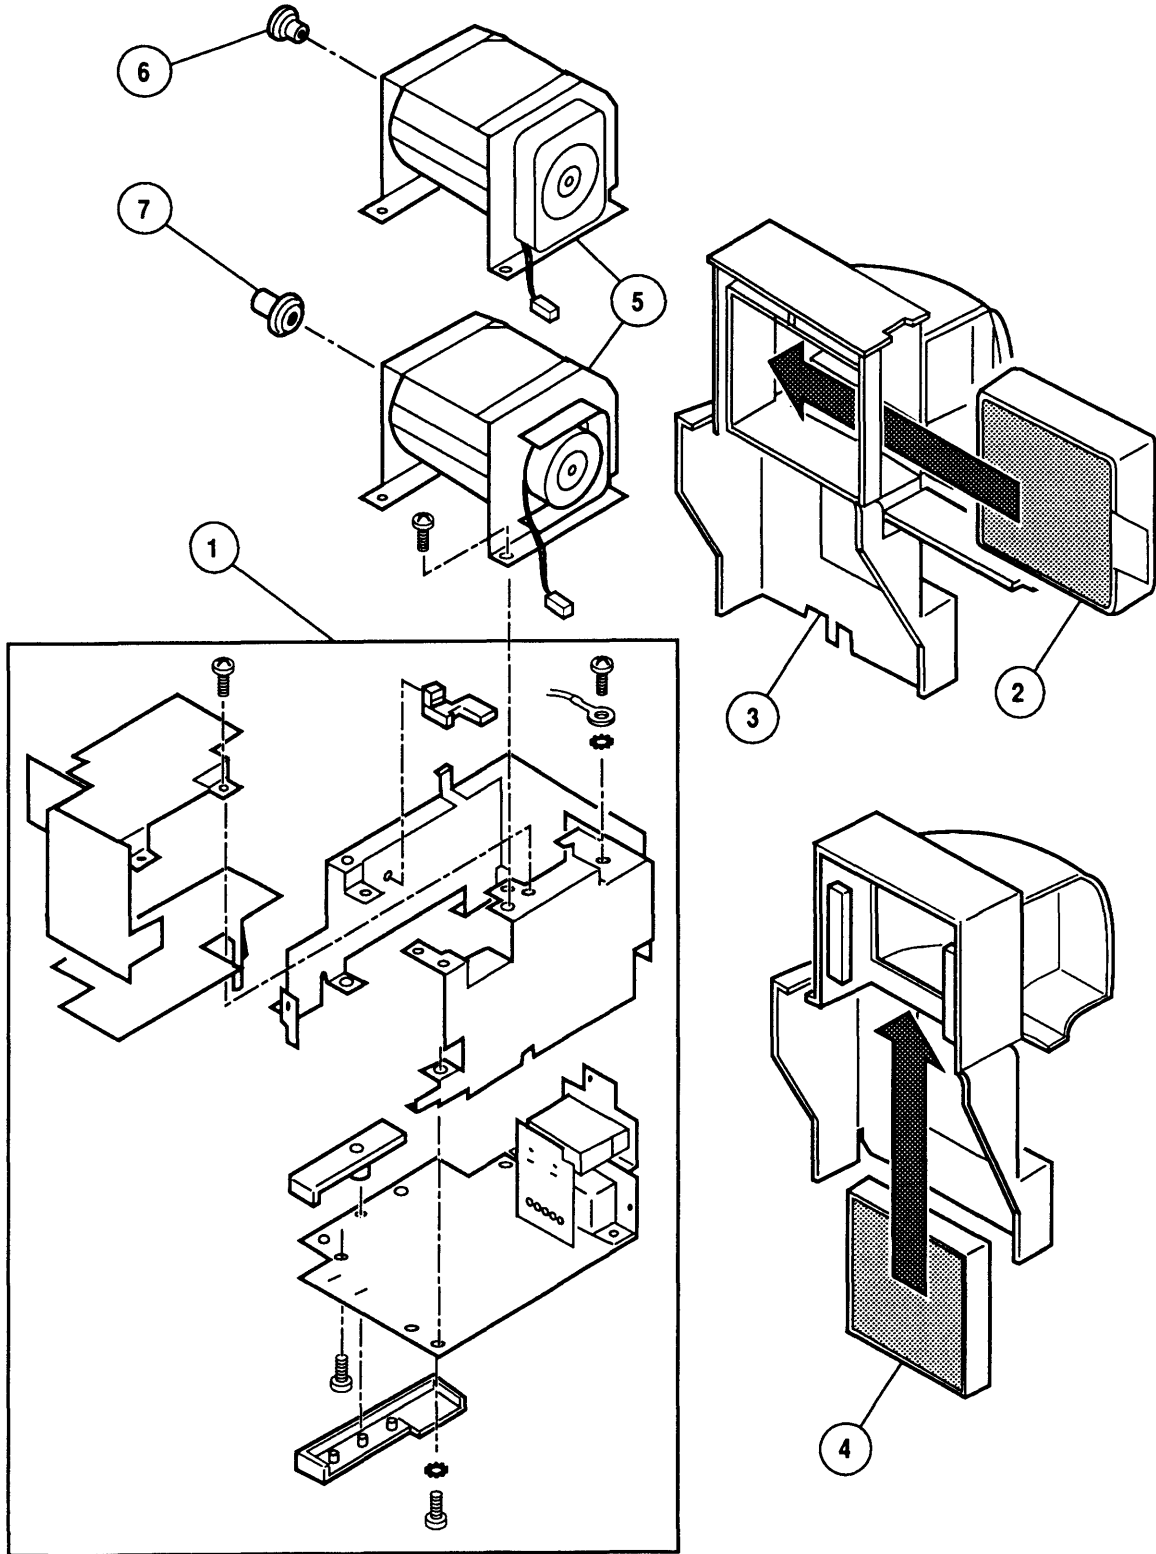

FIGURE 6
- IPL.13 Power Cord Terminal Assembly (Figure 6)
□ POWER CORD TERMINAL ASSEMBLY (Figure 6)